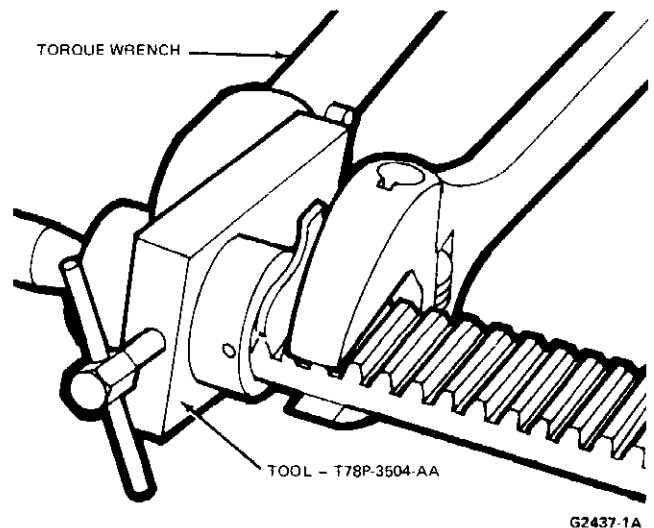

FIG. 11 Removing or Installing Tie Rod Ball Housing Assembly—Fairmont/Zephyr
6. Install ball housing torque adapter, Tool T78P-3504-AA on ball housing. Locate the point of the locking screw in the large hole midway along the length of the housing and tighten firmly (Fig. 11).
7. Attach a standard 1/2 inch drive ratchet handle to the tool. Expose enough rack teeth to install an adjustable wrench over the flat formed by the tops of the rack teeth. Loosen the ball housing tie rod assembly by holding the adjustable wrench and turning the ball housing torque adapter tool T78P-3504-AA (Fig. 11).
housing to 45-60 ft-lb by turning the torque adapter tool with a 1/2 inch drive torque wrench (Fig. 11).